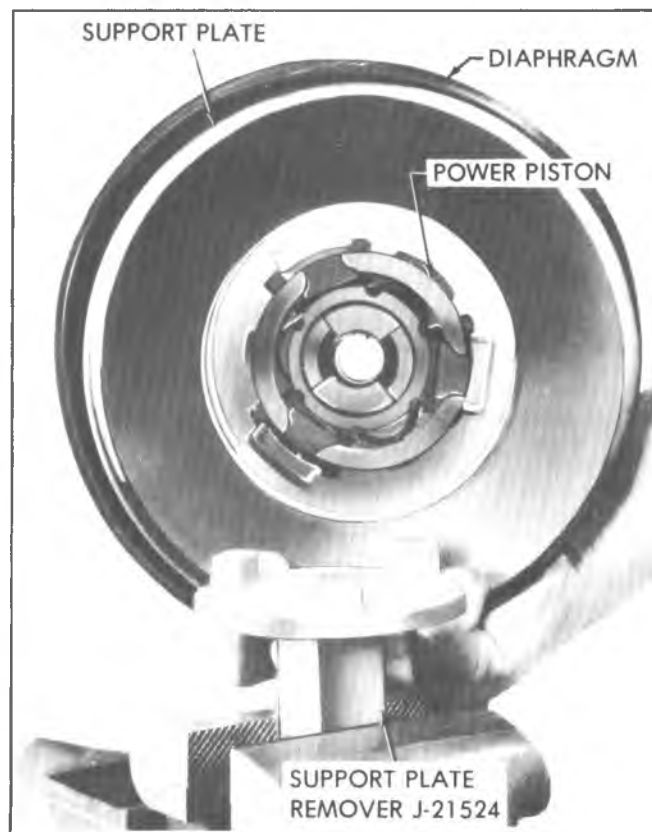

Fig. 5-6C--Positioning Support Plate Retainer in Vise
5. Place power piston Tool J-21524 with square shank in vise. Hold support plate and power piston with tube of power piston up (fig. 5-6C).